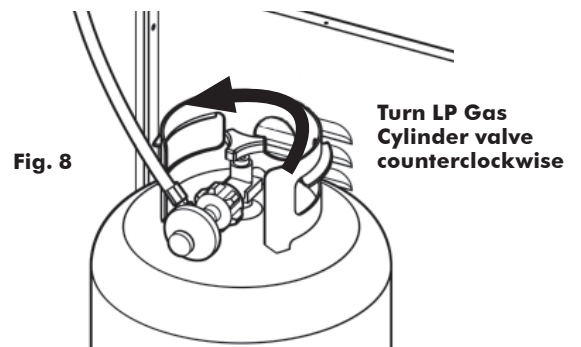

Fig. 8
3. Turn the LP Gas Cylinder valve open counterclockwise until it stops. (Fig. 8)
3. Turn the LP Gas Cylinder valve open counterclockwise until it stops. (Fig. 8, P.19)
3. Turn the LP Gas Cylinder valve open counterclockwise until it stops. (Fig. 8, page 19)